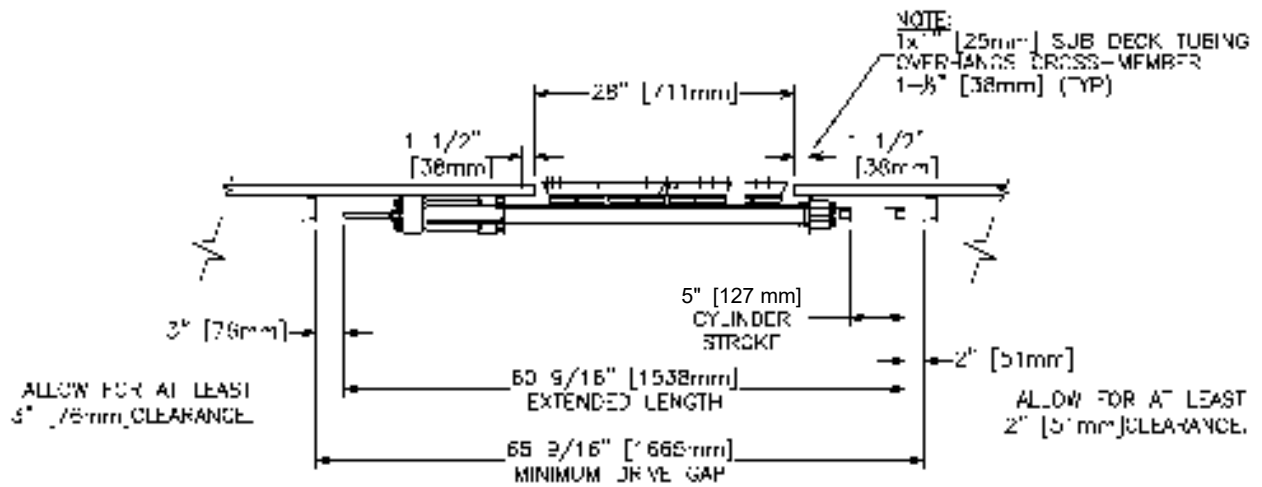

Figure 9
2. Determine the proper length for the 1" [25mm] square tubes. Lay out the tubes, noting that they must extend 1-1/2" [38mm] inside the drive cross-members and beyond all other cross-members by 2" [50mm]. The number of tube sets installed will equal the number of floor slats. (Figure 9)
always clamped over the last welded cross-member, while the other jig is moved forward to the next cross-member. Clamp the jig and tubes to every cross-member or every other cross-member, depending upon how straight the stock tubing is. Remember to allow for the sub-deck to overhang the formed cross-members on the drive unit. The sub-deck will also overhang the final cross-members at the front and rear of the trailer (Figure 9).